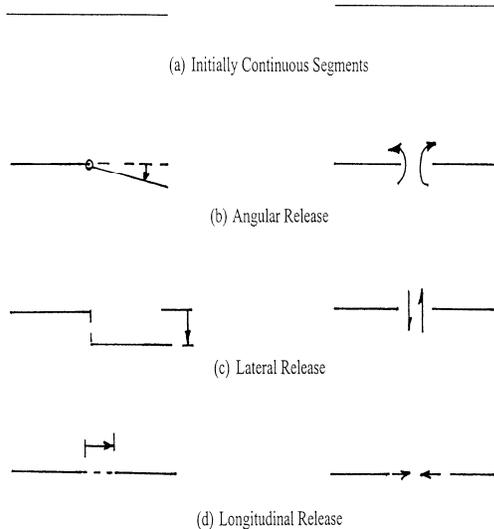

Fig. 1 – Definition of Releases
- Figure 1 shows several types of releases.